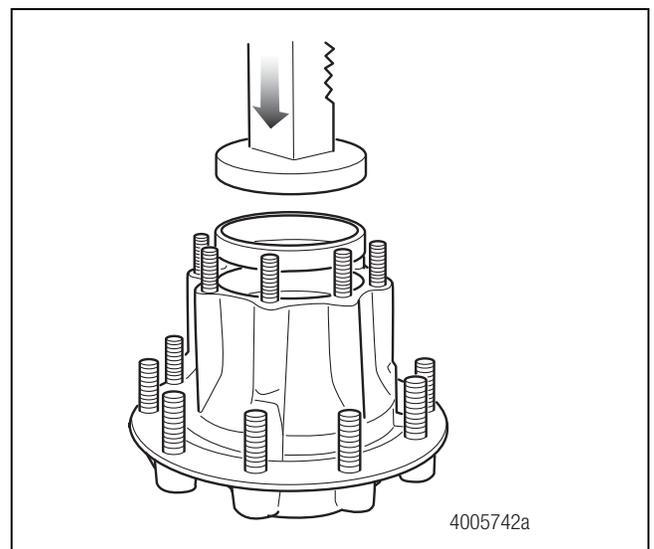

Figure 4.6
7. Use a press to install the bearing cup into the hub. Verify that the cup is fully pressed against the seat. Do not over press. Figure 4.6.